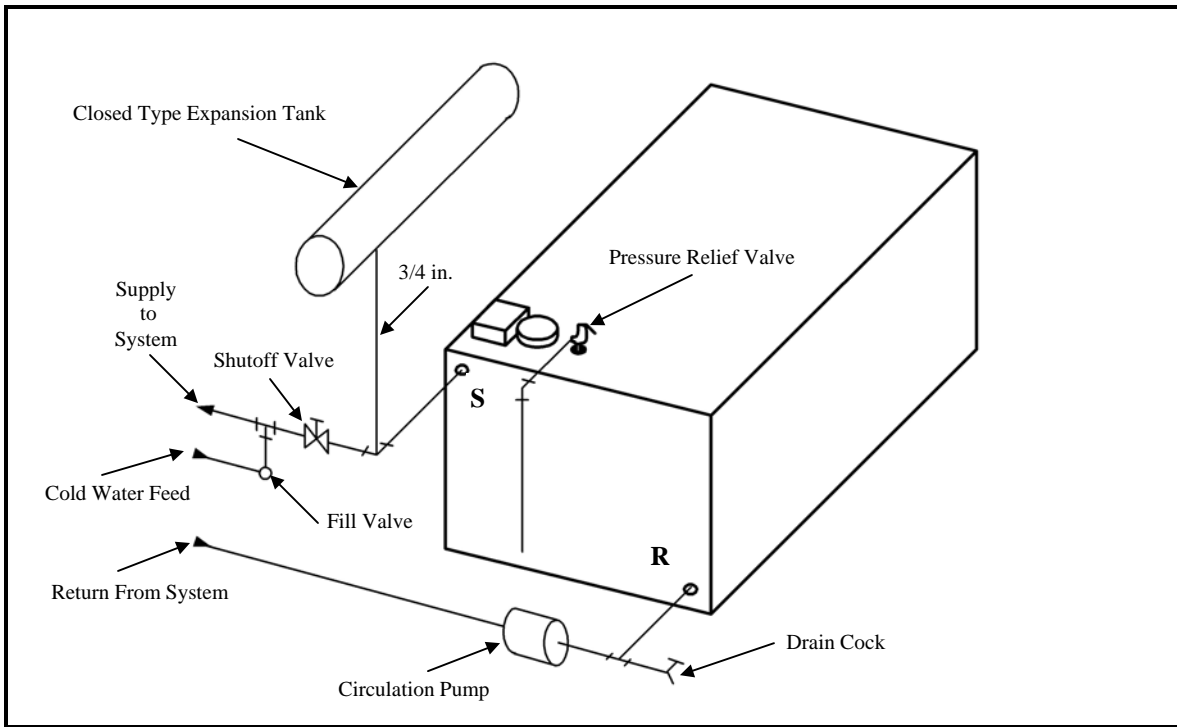

Figure 16.
- (a) Piping Connections with closed type expansion tank----See Figure 16. Piping from tee in supply to tank should be 3/4 inch. If horizontal piping is employed, pipe must be pitched up toward tank 1/4 inch per foot.